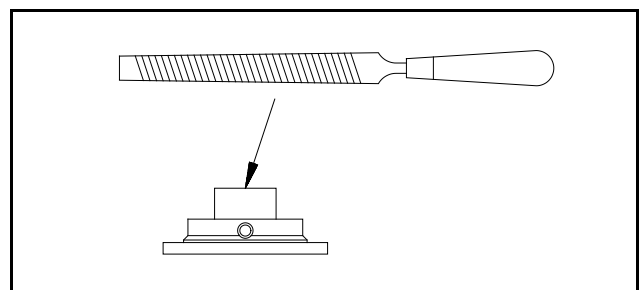

Figure 9.
- 5.5 **To file the clutch hub,** move the handle back to the shipping position. Remove the Quick Chuck. Insert the hex wrench into the 1/4" hole and pry out the clutch. (If the clutch is stuck, go to step 7.1.1.) File or grind the end of the clutch hub a little to shorten it. See Figure 9. Slide the clutch onto the shaft. Fasten the Quick Chuck to the adapter again and move the handle counterclockwise until it stops. If the handle is still too low, shorten the clutch hub some more. You must add a spacer if you shorten it too much. When the handle rests between 2:00 and 2:45, go to step 5.6.